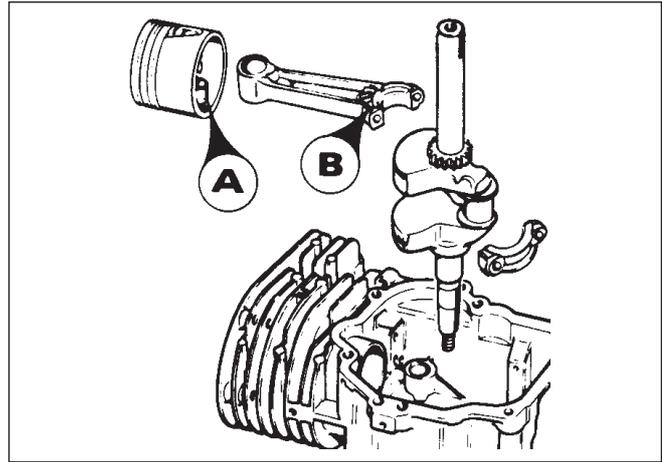

Fig. 49
**e) PISTON AND CONNECTING ROD (FIG 49)**